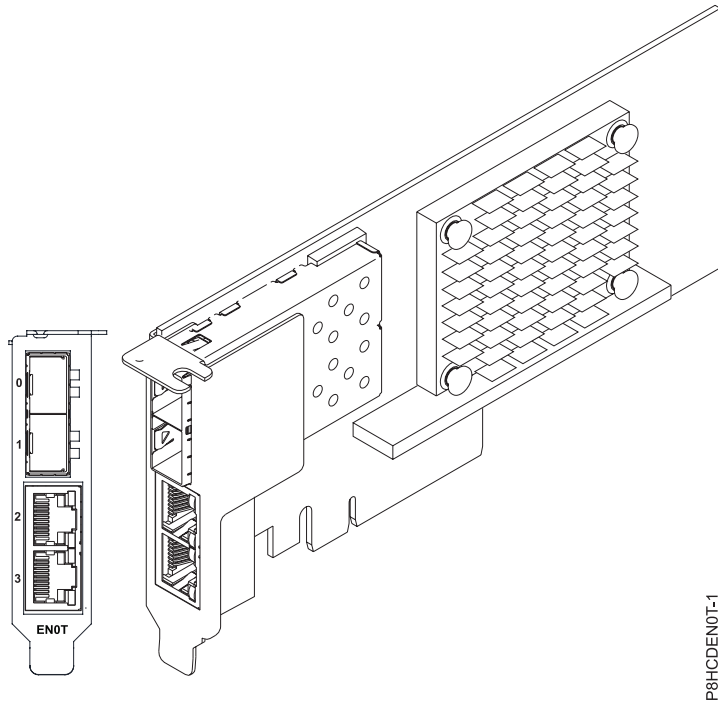

Figure 19. FC EN0T adapter
The four-port adapter provides two 10 Gb small form-factor pluggable (SFP+) optical SR transceiver ports and two 1 Gb RJ45 Ethernet ports. The two 10 Gb SR ports have little connector (LC) duplex-type connectors. The optical transceiver uses shortwave laser optics and is attached with MMF-850nm fiber cabling with LC connectors. See “Cables” on page 53 for more information about the optical cables. Each 10 Gb port provides Ethernet connectivity with a nominal data rate of 10 Gbps (gigabits per second). Figure 19 on page 53 shows the FC EN0T adapter.